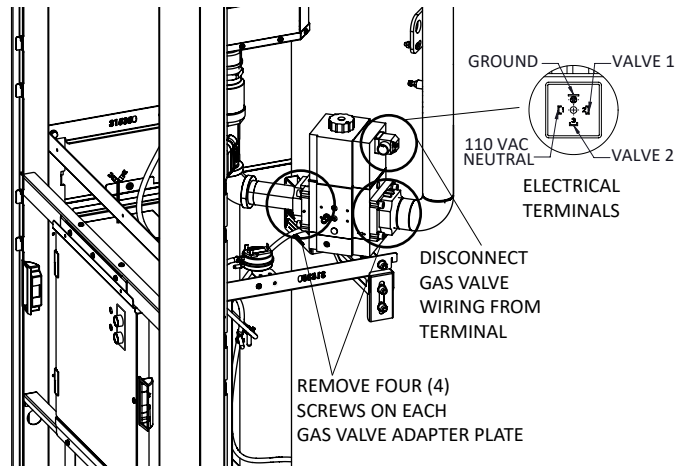

Figure 1. Remove Valve Wiring and Screws
5. Using a slotted screwdriver, remove the retaining screw securing the gas valve's wiring cover. Carefully lift and detach the wiring cover to expose and unplug the four (4) terminal connections. See **Figure 1**.
6. Using a 6 mm hex key, remove the eight (8) socket head cap screws securing the gas valve to the inlet and outlet flanges. Each flange is fastened with four (4) screws. See **Figure 1**.
13. Reconnect the four (4) terminal connections to their original locations on the gas valve. Install the wiring cover and secure it with the retaining screw using a slotted screwdriver. See **Figure 1**.